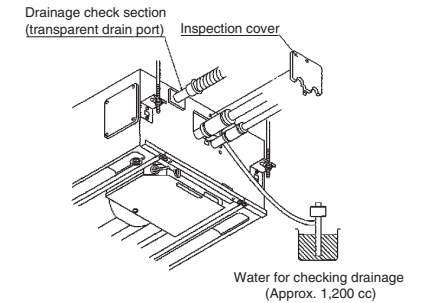

Fig. 3-30
- When the check of drainage is complete, open the check pin (CHK) and remount the tube cover. (Fig. 3-30)
To mount the tube cover, use 4 × 8 tapping screws. (Fig. 3-30) Do not use long screws as they may puncture the drain pan and cause water leakage.